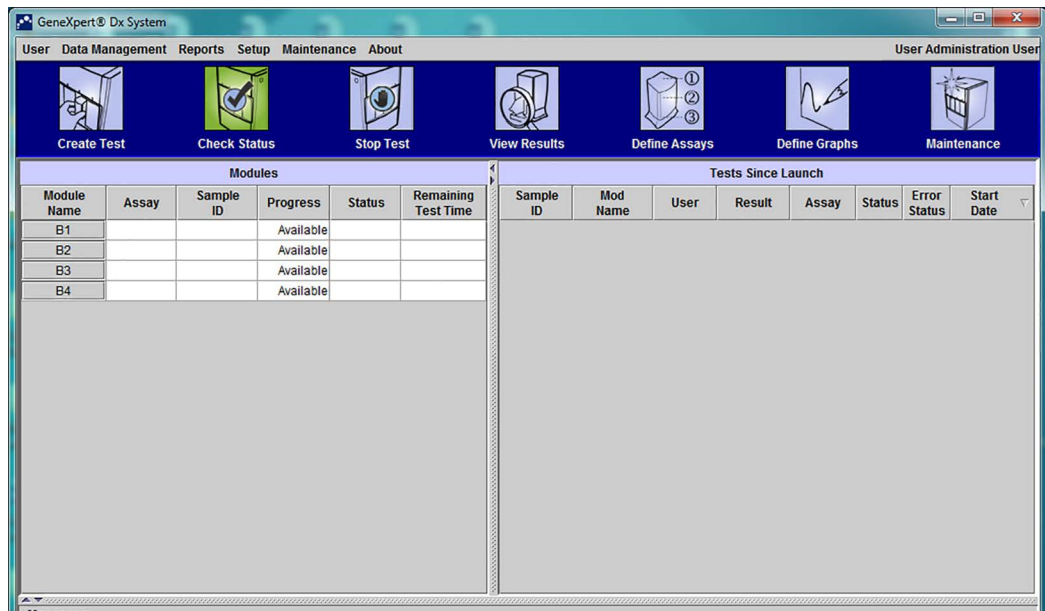

Figure 2-35. GeneXpert Dx System Window
1. In the Assign Instrument Dialog box, click **OK** to acknowledge the assignment of the instrument letter(s), which closes the dialog box. The Database Management dialog box appears (see Figure 2-35).